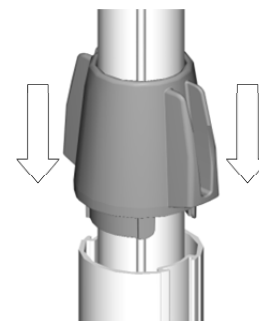

Figure 21
17. Remove the level from the post by sliding it up off the bottom portion of the post. Slide the blue locking device down to fit into the bottom part of the post to lock the post in place (see Figure 21).